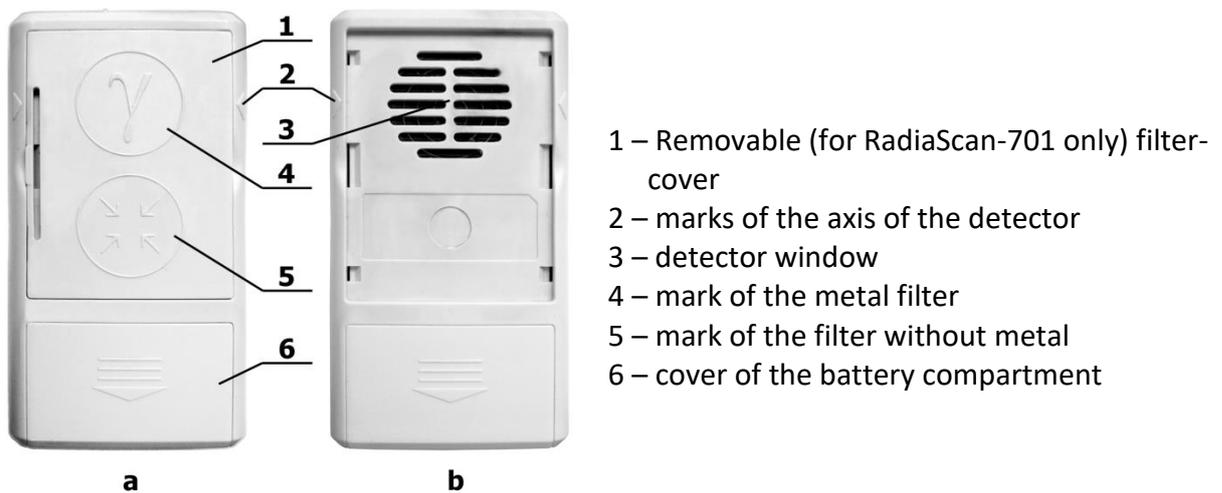

Fig. 3 Appearance of the rear side of RadiaScan-501(601, 701)
Appearance of the rear side of RadiaScan-501(601, 701) with installed filter-cover is shown in Fig. 3.a, with removed cover – Fig. 3.b.
- detector window is covered with metal filter, as shown in Fig. 3.a;